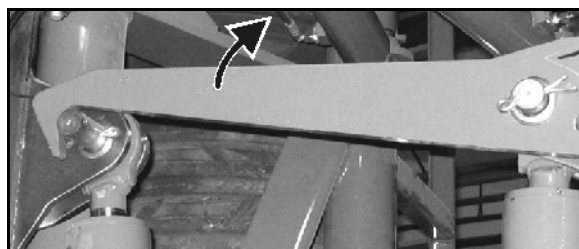

Fig. 70
- Safety latch unlocked (Fig. 70).